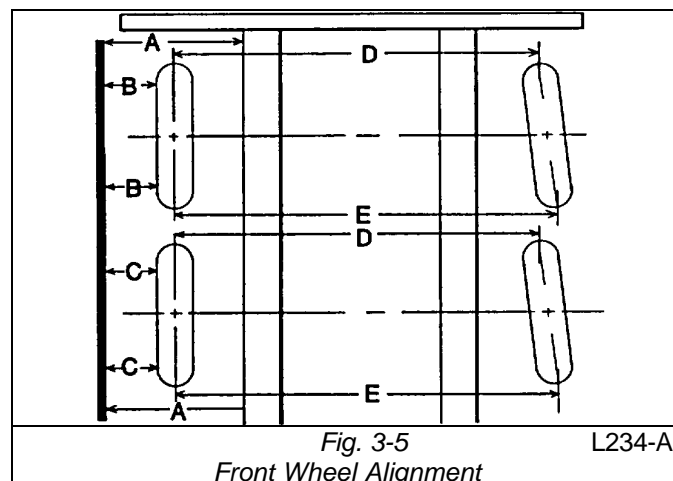

Fig. 3-5
Note: Fig. 3-5 illustrates one means of checking step (6). This involves placing a straight edge parallel to the carrier by measuring a distance (A) at each end of the straight edge. Once the proper position of the straight edge is obtained, measure the distance between the straight edge and the milled surface on the wheel hub used to locate the tire lugs. These four dimensions are represented by the letters (B) and (C), in Fig. 3-5. Distance (B) must equal (B) and (C) must equal (B) does not necessarily have to equal (C). A drag link adjustment may be necessary to correct any misalignment. Be sure to tighten all drag link clamping bolts when adjustment is correct.